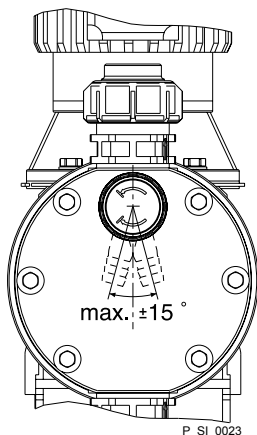

Fig. 16: Permissible alignment of the relief valve
- Route the overflow line with a continuous slope and moreover with the tube nozzle pointed downwards - see Fig. 16.